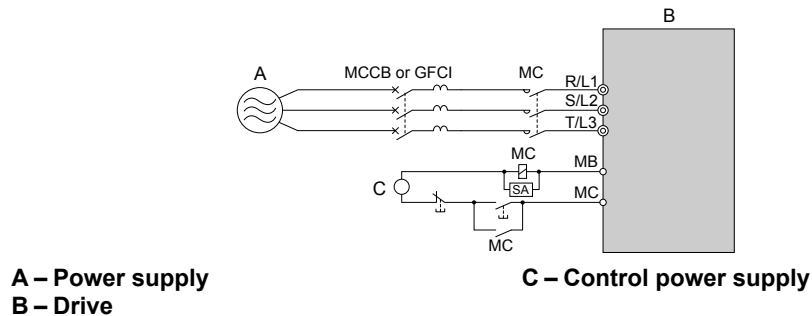

Figure 8.23 Power Supply Interrupt Wiring (Example)
- If several drives are connected to one MCCB or GFCI that is shared with other equipment, use a sequence that shuts the power OFF when errors are output by using magnetic contactor (MC) as shown in Figure 8.23.